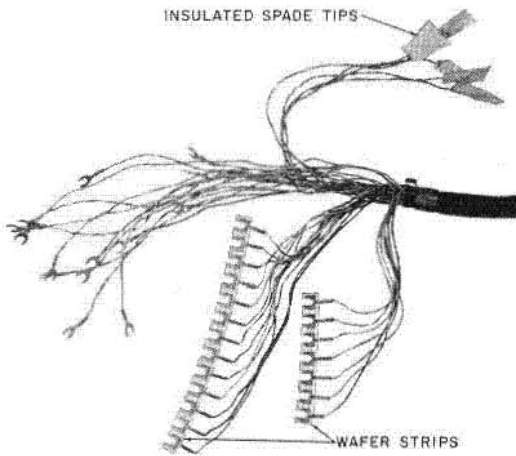

Fig. 10—Slotted Wafer Strip End of Mounting Cord, Later Type
**3.07** Mounting cords of late manufacture feature a slotted wafer strip (Fig. 10) to facilitate replacement.